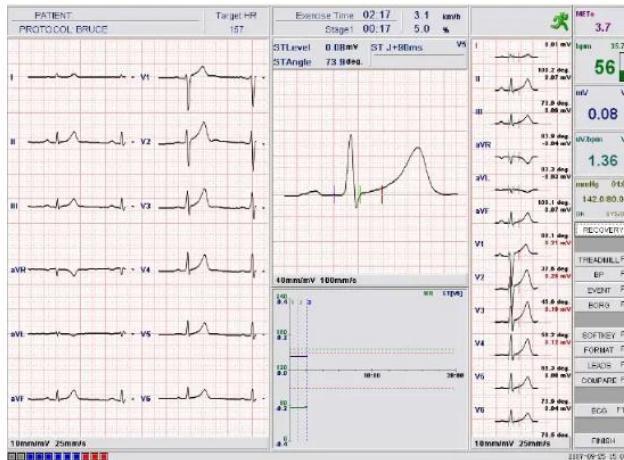

Fig.5-7 Sampling Stage
The interface sampling is different from the interface of pre-sample, as Fig.5-7:
5.2.3.1 Content of Fig.5-7
⚠ Notice: If receiver is set as "Bluetooth receiver", the battery icon will show on the right of the Metabolize quantity in parameter display area, as Fig.5-7.
When operator chooses magnified ST segment main analyze leads, last event or movement trend is displayed in downside of middle part on screen. Movement trend includes heart rate and ST segment trend chart (as Fig.5-7), the last event is the ECG waveform of the last event.